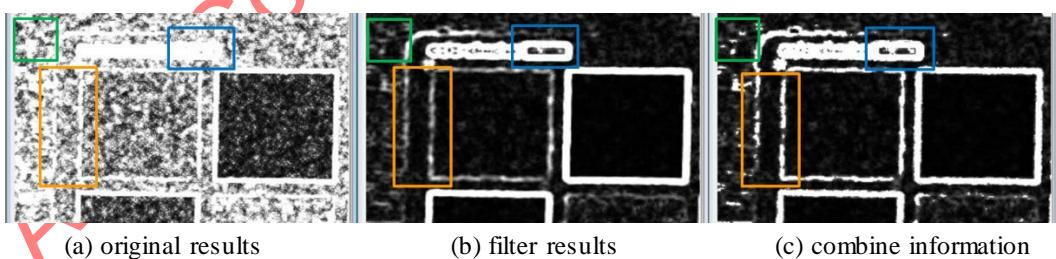

Fig. 5-100 The final combine Difference map results if Filter Mode $\neq 0$ .
- If Filter Mode $\neq 0$ , we will merge two difference map information as our final difference map. As shown in the Fig. 5-100. Besides, we only show this UI when Filter Mode $\neq 0$ , as shown in the Fig. 5-101 (a).